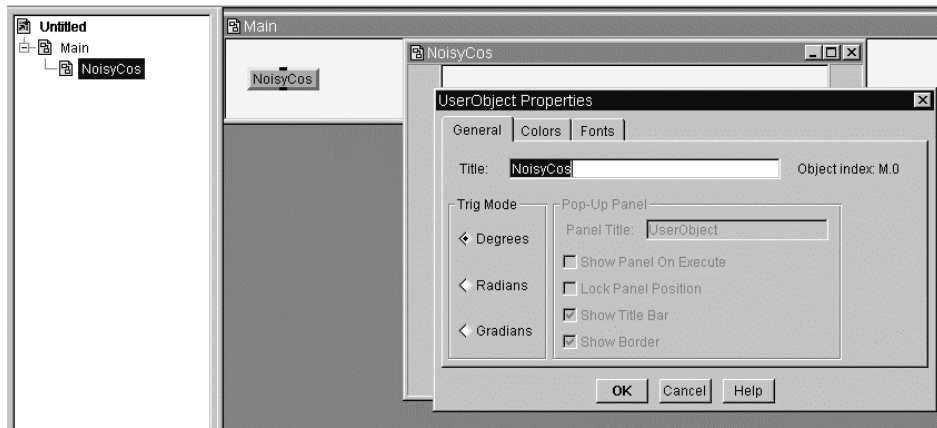

Figure 1.5. Changing UserObject title
5. Type NoisyCos in the Title box; click OK. See Figure 1.5.